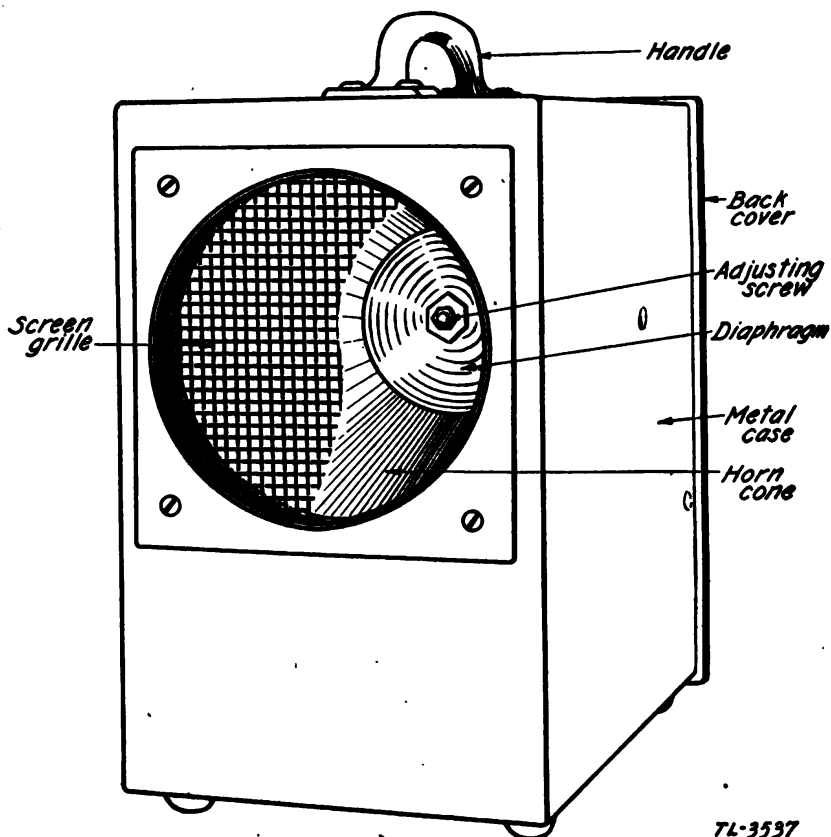

FIGURE 10.—Time interval signal BE-85.
8. **Time interval signal BE-65.**—This signal (fig. 10) consists of an electrically driven horn controlled by a local relay. The relay receives its power for operation by wire from a remote control point, either manually or automatically controlled. The horn is driven by two batteries BA-23.